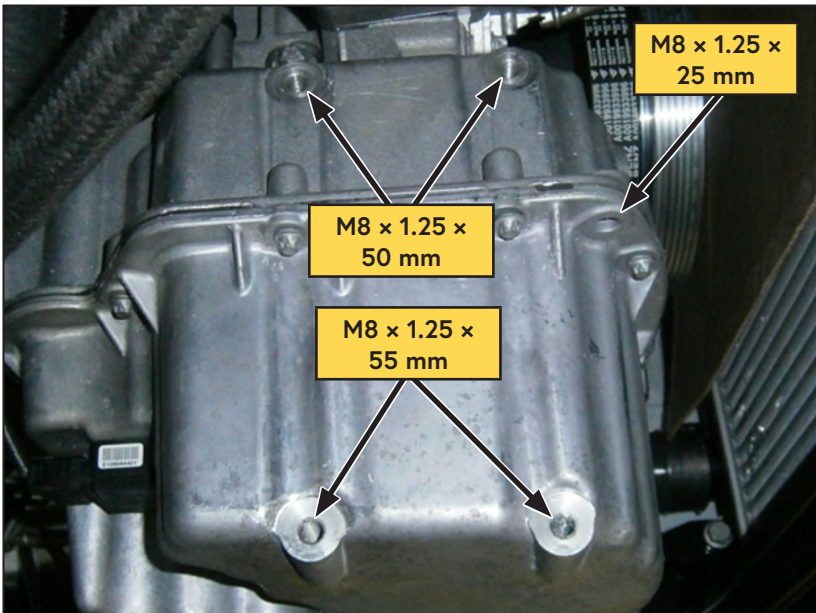

Figure 9 — VMAC Main bracket mount location
- The VMAC main bracket is secured to the engine via 5 threaded holes on the engine oil pan (4 threaded holes on the side and 1 threaded hole at the front) (Figure 9).